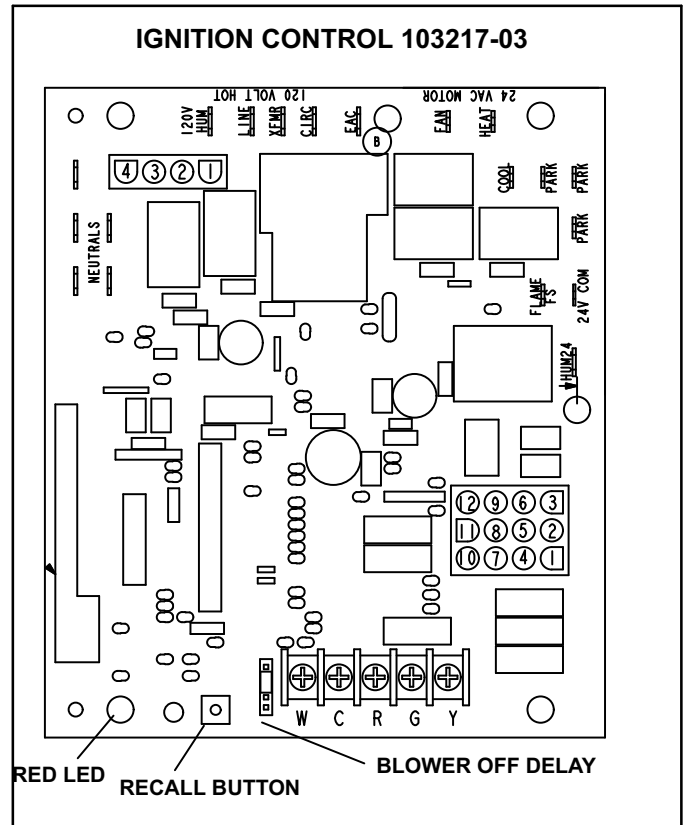

FIGURE 3
The hot surface ignition control system consisting of an integrated control (figure 3 or 4 with control terminal designations in tables 1, 2 and 3), sensor and ignitor (figure 7). The integrated control and ignitor work in combination to ensure furnace ignition and ignitor durability. The integrated control, controls all major furnace operations. The integrated control also features a RED LED for troubleshooting and two accessory terminals rated at (1) one amp. The nitride ignitor is made from a non-porous, high strength proprietary ceramic material that provides long life and trouble free maintenance.